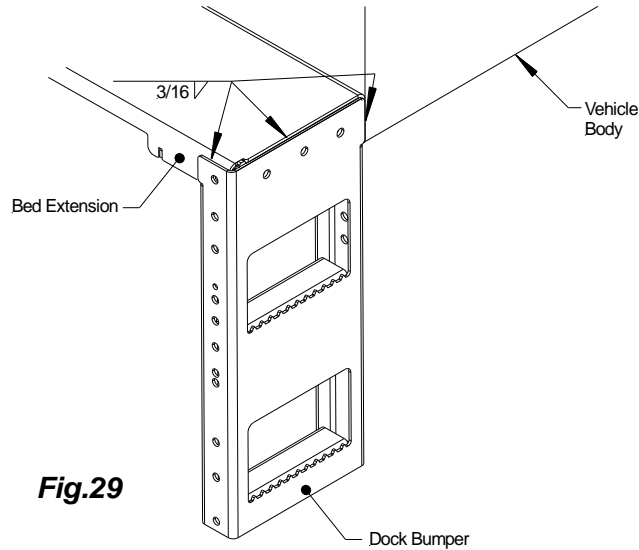

Fig.29
1. Dock Bumpers: Clamp dock bumpers to the bed extension as shown, **Fig.29**. Check for squareness. Tack weld the dock bumper. Repeat process for driver side.